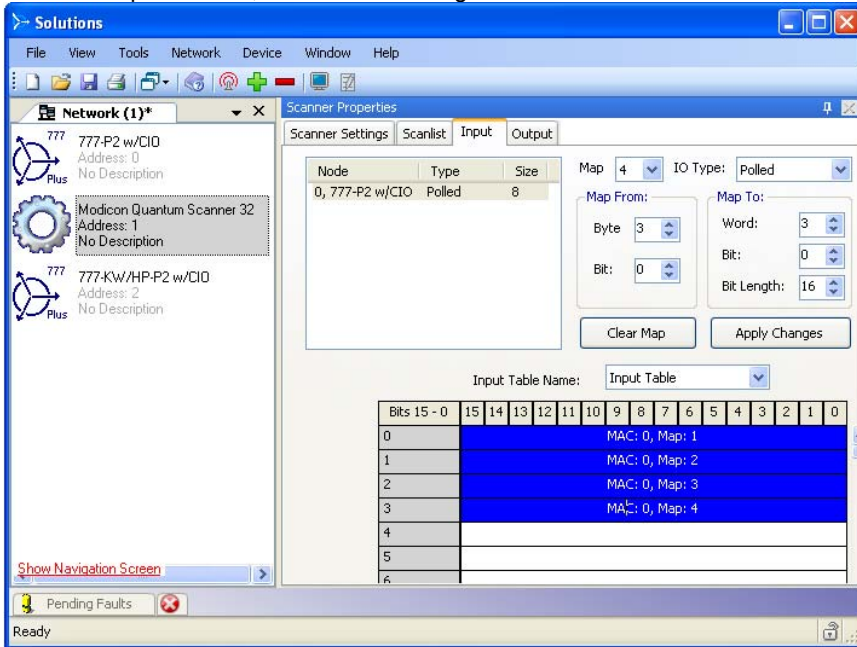

Figure 16 - Input Map
- Step 23. Repeat Step 17 through Step 22 for all parameter to be mapped. In the case of input assembly 100 the user could map all 4 parameters; this is shown in Figure 16.